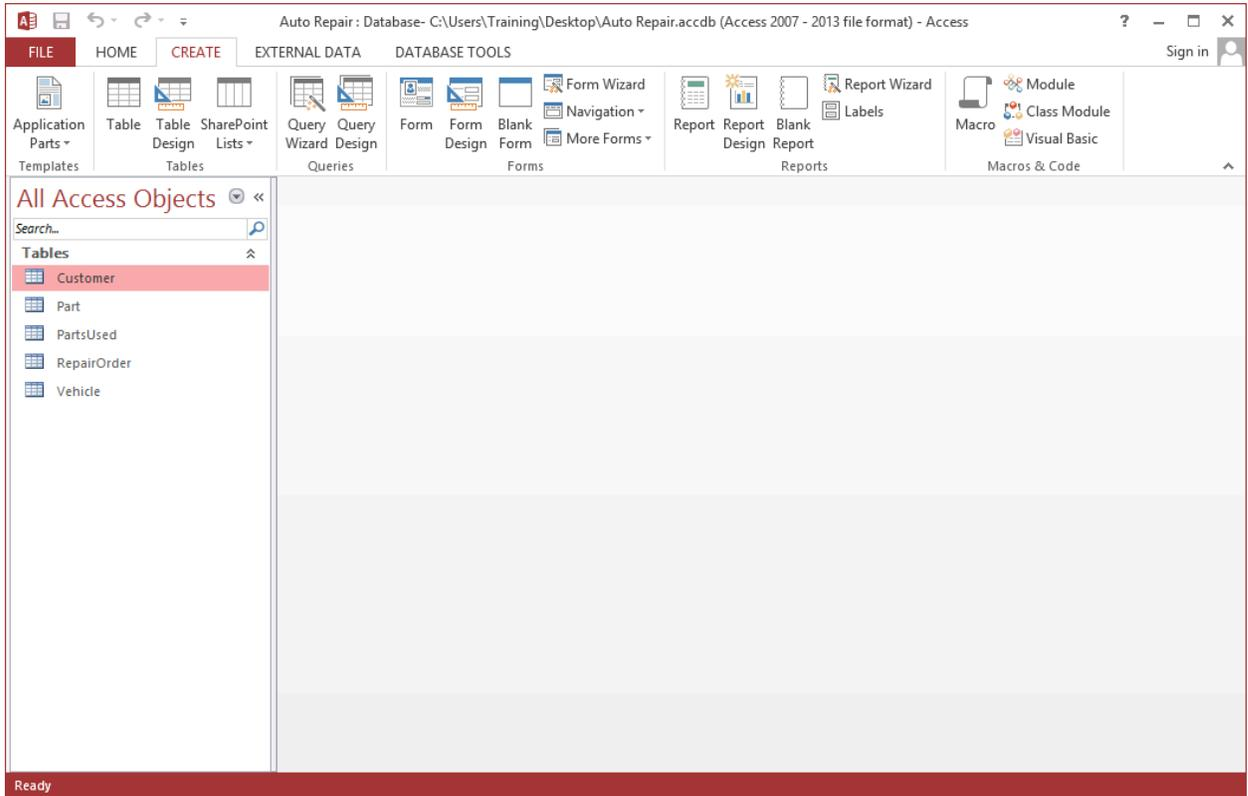
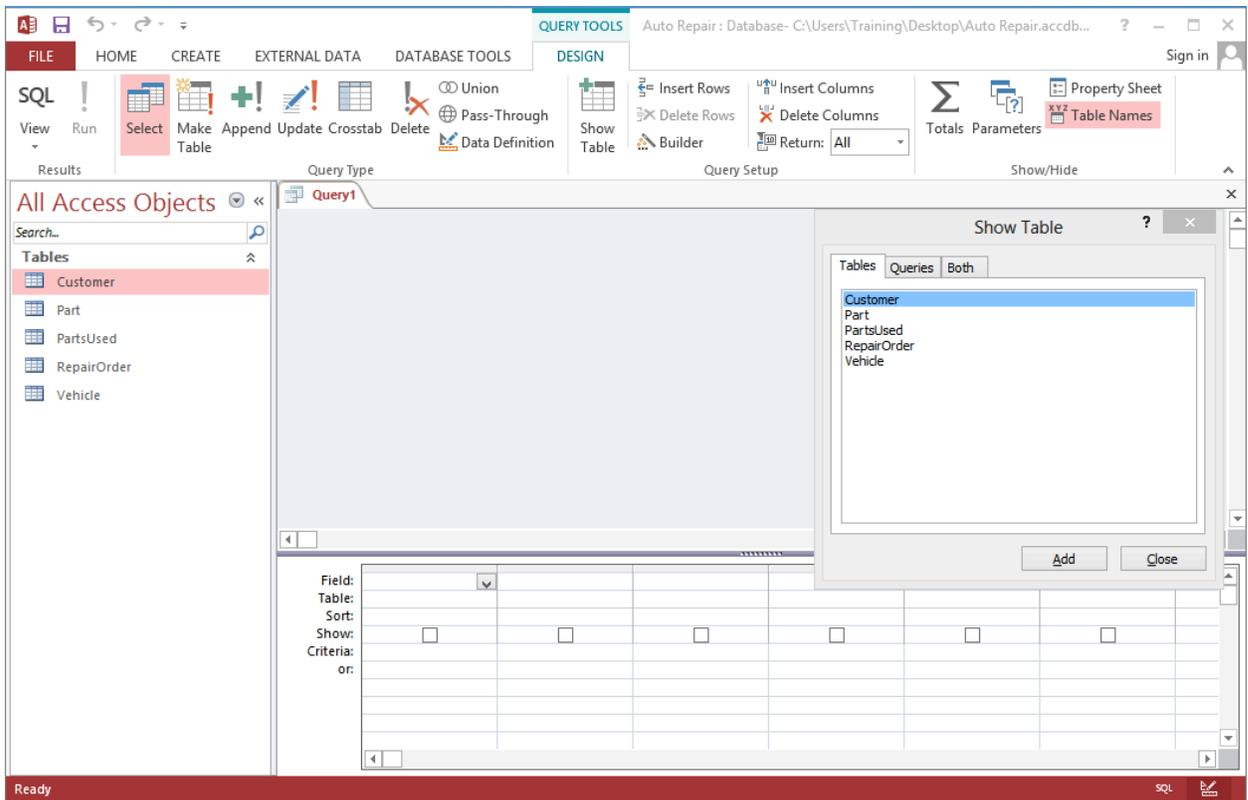
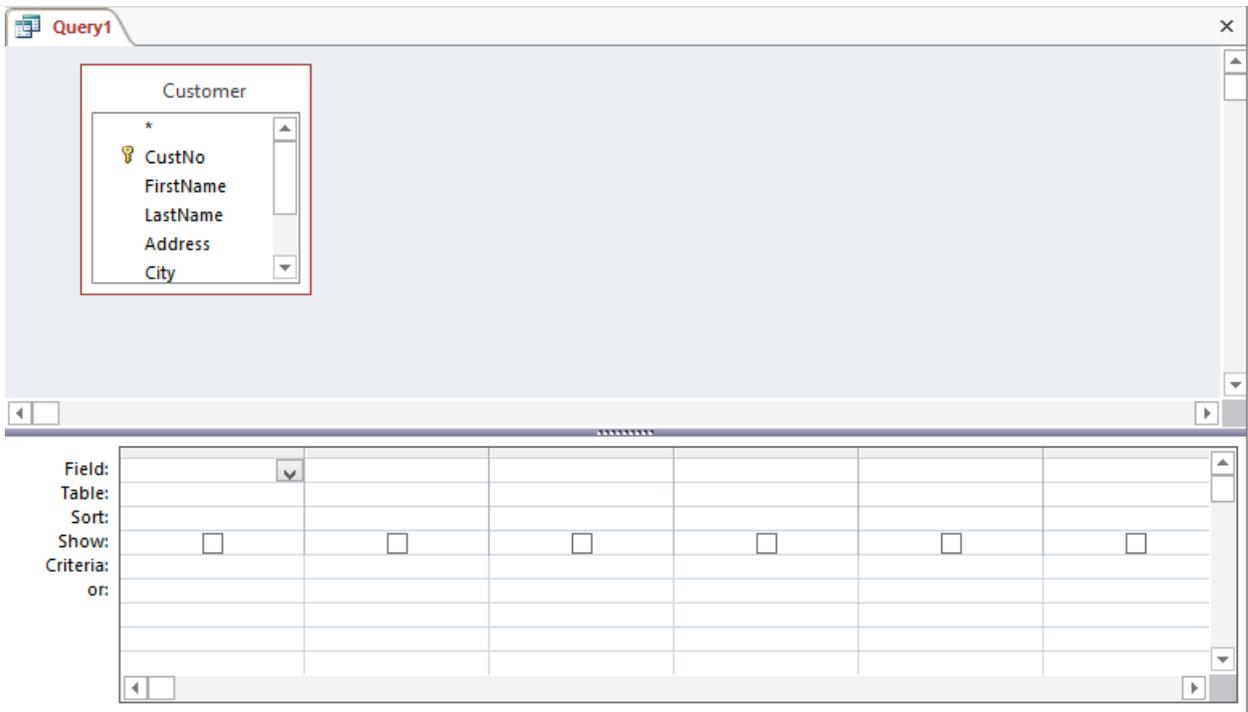

Figure 1: Navigation Pane with Empty View Pane
Figure 2: Query Design Pane and Show Table Window
Figure 3: Query Design Area with *Customer* Table
1. Open the Auto Repair Database: Start Access and open the auto repair database (AutoRepair.accdb) that you created in Chapter 2. The navigation pane should show the tables that you created in Chapter 2 (Figure 1). Choose **Create** → **Query Design** in the Queries group to open Query Design in the view pane (Figure 2).
2. Select a Table/Query: Query Design appears in the view pane with the Show Table window on top of it (Figure 2). You must select a table or existing query to include in the new query. Select the *Customer* table, click the **Add** button, and then click the **Close** button. Figure 3 shows the Query Design pane containing the *Customer* table.